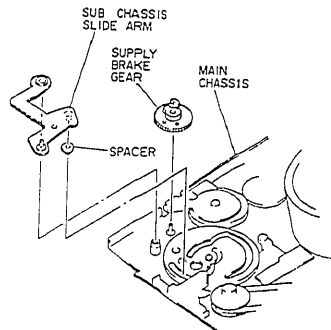

Fig. 2-49
1) Pull out the sub chassis slide arm and spacer from the main chassis. (See Fig. 2-49)
- (2) Supply Brake Gear
1) Pull out the supply brake gear from the main chassis (See Fig. 2-49)